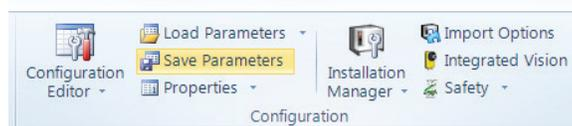

Figure 2- Save the EIO Config file which will later be used to import tags into the Panel Builder HMI project.
9. Click **Save Parameters** in the Configuration group, as shown in figure 2. Save the EIO configuration file you your hard drive. Make a note where it is saved as this file will be imported into your Panel Builder project later on.